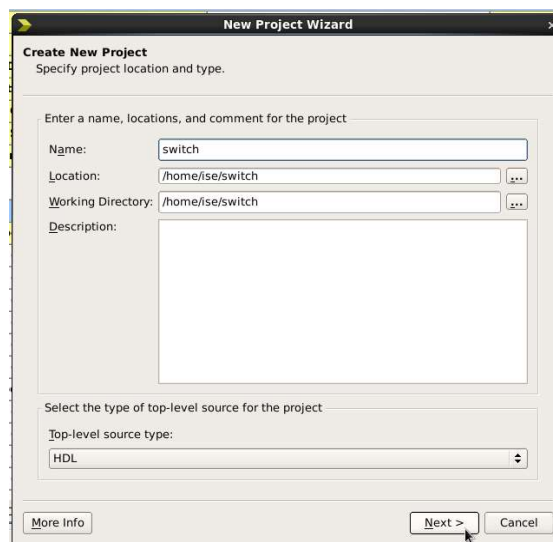

Fig 1.2: New Project Wizard window
3. The **New Project Wizard** window will be displayed. In the **Name** field type switch(i.e. name of the project) and in the **Location** field, choose the directory in which you have to store the project. For the current project it is /home/ise/switch(Fig. 1.2)